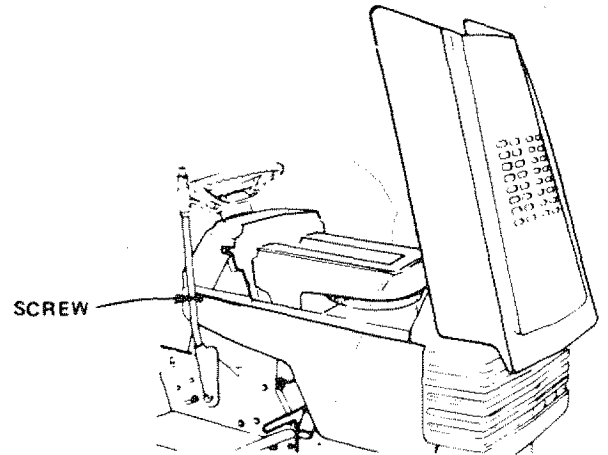

FIGURE 35
- Unscrew one screw at rear of each side panel (Fig. 35).